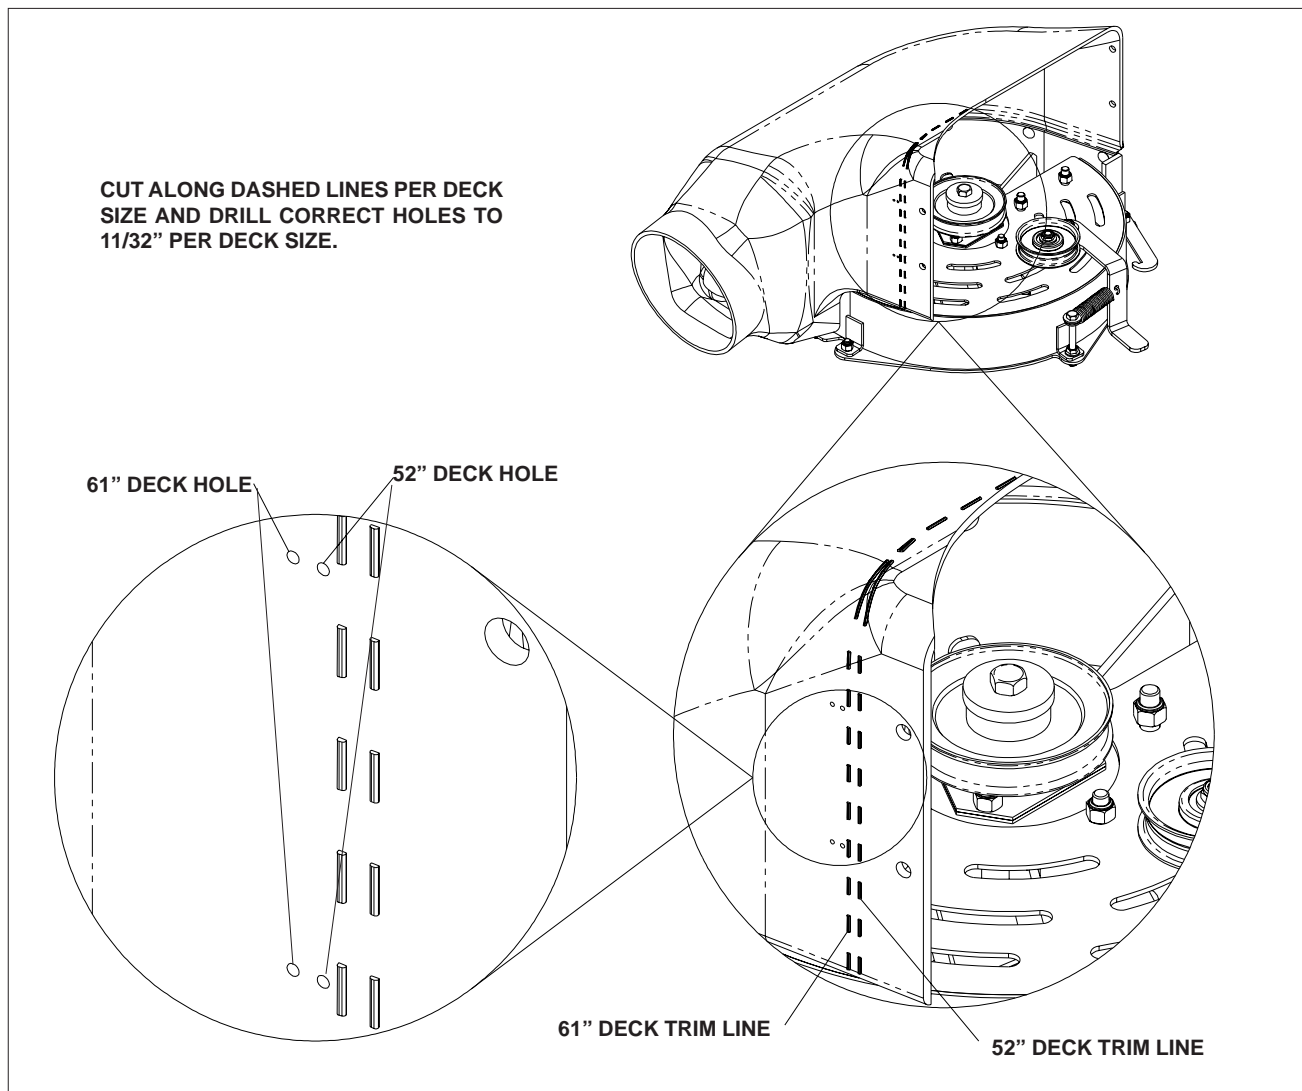

FIGURE 2
13. Cut the blower housing along the dashed line to fit the 52" and 61" decks. Drill the two small holes indicated with the 11/32" drill bit. The blower housing will fit 42" and 48" units with no modifications. Figure 2.